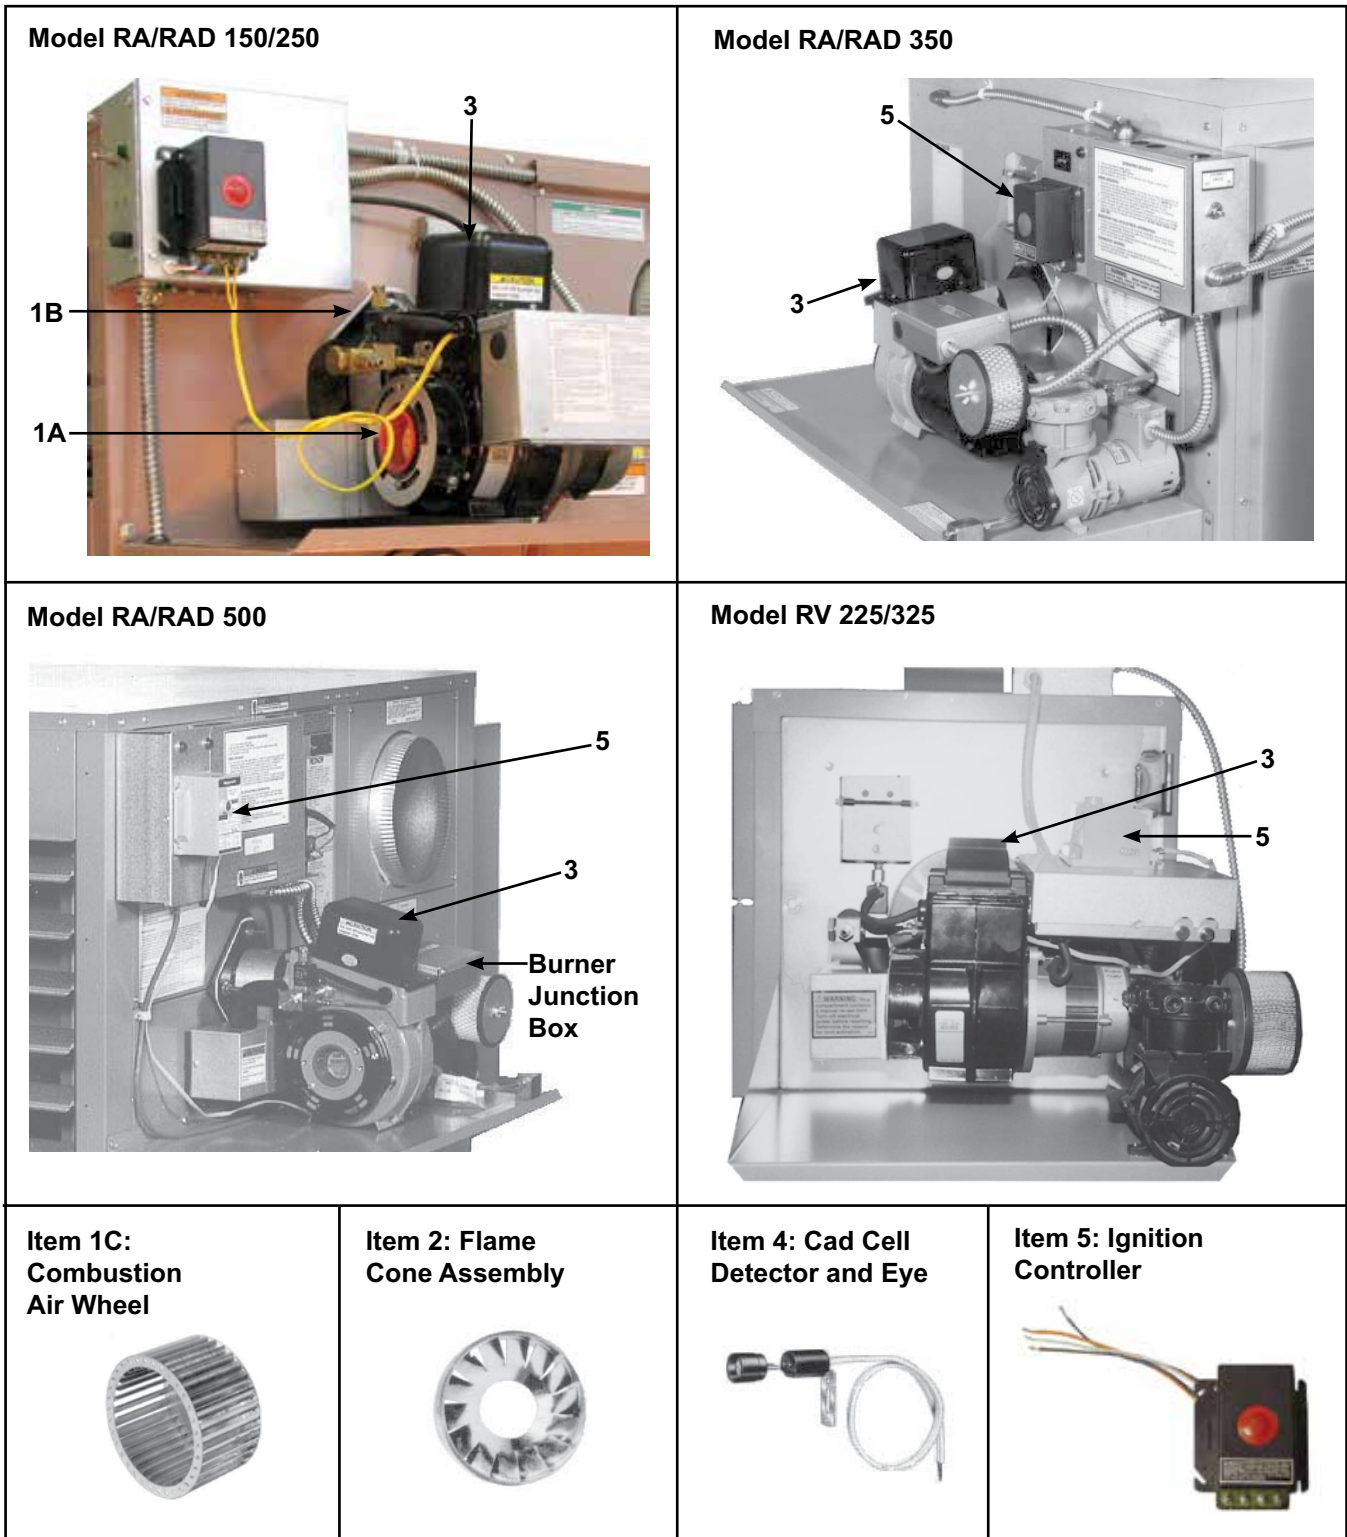

Figure 3. Burner Assemblies/Components (Refer to Table 5)
- Burner assembly components are shown in Figure 3 and listed in Table 5.